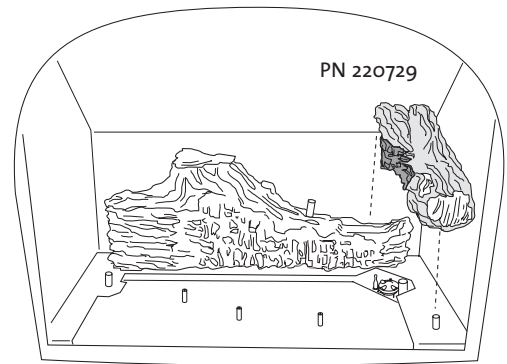

Figure 12. Install right log
2. Locate the right log to overlap the rear log and engage with the peg as in fig. 12.